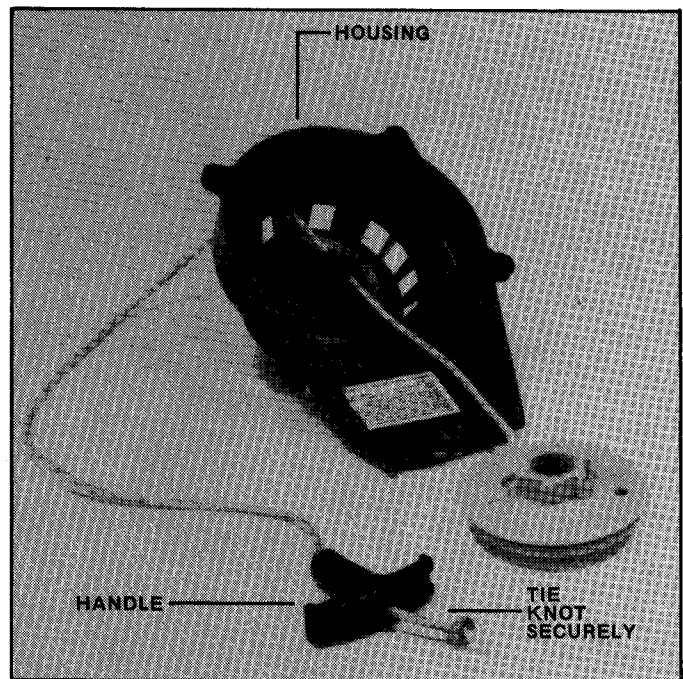

FIGURE 7.7
B. Insert the free end of the rope through the guide hole of the starter housing from the inside of the housing. Thread the rope through the starter rope handle and tie a knot securely. See Figure 7.7